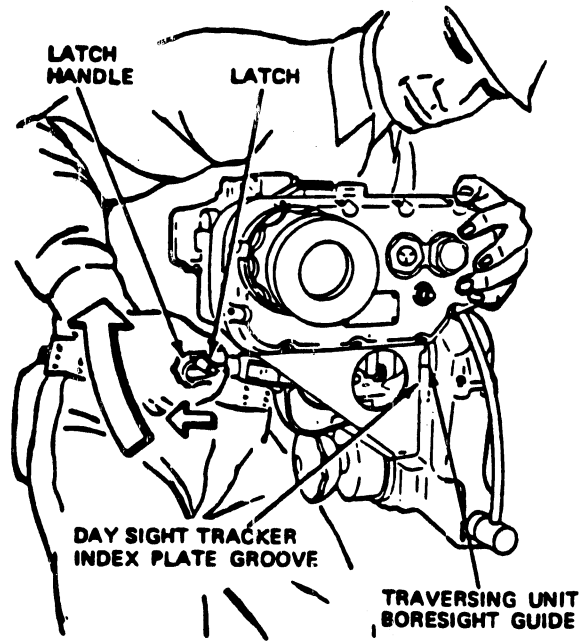

Fig 2-28. Installing day sight tracker--continued.
Step 3. Join the day sight tracker index plate groove with the traversing unit boresight guide and pull the latch handle all the way up until the latch releases (fig 2-28).